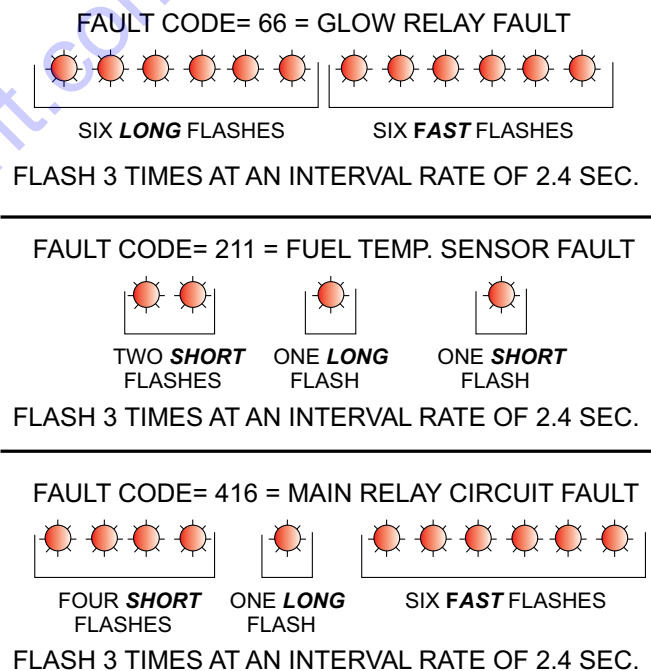

Figure 102. Fault Code Examples
- The diagnostic lamp (Figure 101B) will start flashing with a pattern according to the detected fault code 3 times at an interval rate of 2.4 seconds. Reference Figure 102 on how to read the fault codes.
[1] : Reference Figure 102 on how to read fault codes (Diagnostic Lamp)